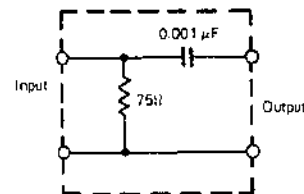

Fig. 70
Connect the sweep generator (40 to 50 MHz) to the IF terminal of the IF pack via the coupling circuit shown in Fig. 70.
- (1) Connect the sweep generator (40 to 50 MHz) to the IF terminal of the IF pack via the coupling circuit shown in Fig. 70.
- (2) Loose-couple the marker generator (45.75 MHz) with the sweep generator.
- (3) Connect the oscilloscope to the IF terminal of the IF pack during adjustment procedure 1, and to IC801 pin 16 inside the IF pack during adjustment procedure 3.
- (4) Connect the +8.3V stabilized voltage power supply to IC801 pin 12 of the IF pack.
- (5) Connect IC801 pin 22 of the IF pack and the GND terminal.